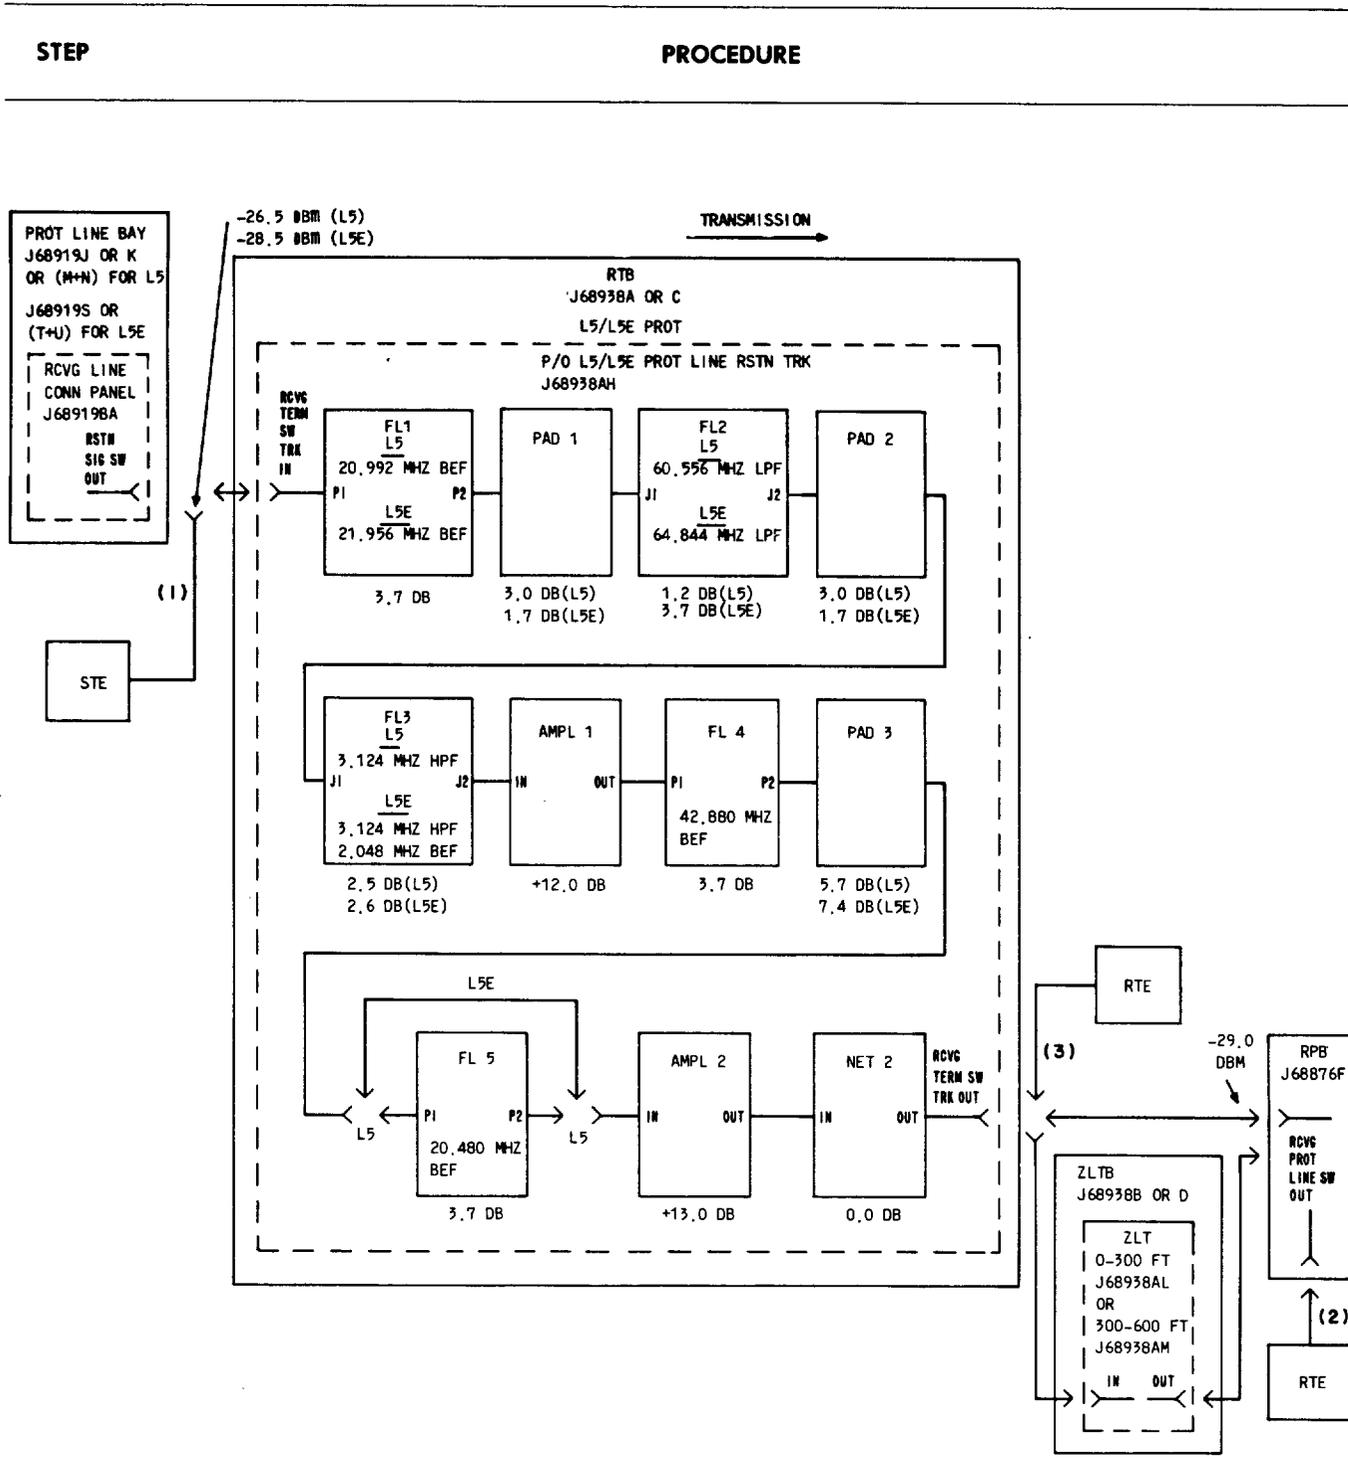

Fig. 9—L5/L5E Protection Line Receiving Terminal Switch Out Restoration Trunk Circuit
4	By using office records, locate the RCVG LINE CONN panel of interest at the protection line bay and remove the cable from the RSTN SIG SW OUT jack. Connect the STE to the cable [Fig. 9, patch (1)].
5	Connect the RTE to the RCVG PROT LINE SW OUT jack at the RPB [Fig. 9, patch (2)].
9	Move the RTE to the RCVG TERM SW TRK OUT jack at the RTB [Fig. 9, patch (3)].
18	If the requirement in Step 17 is met, move the RTE back to the RPB [Fig. 9, patch (2)], restore the coax to the RCVG TERM SW TRK OUT jack at the RTB, and go to Step 19; if otherwise, troubleshoot the trunk between the RTE and the STE and go back to Step 11.
57	Remove cable from the STE and restore in the RSTN SIG SW OUT jack in back of the RCVG LINE CONN panel in the protection line bay [Fig. 9, patch (1)].